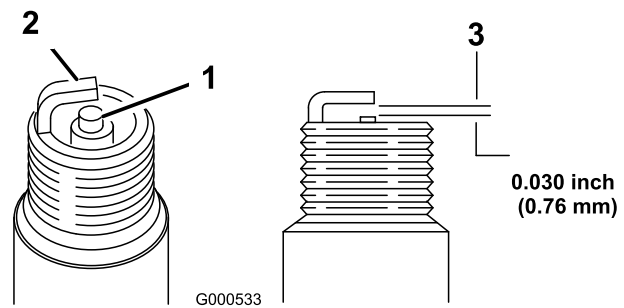

Figure 28
5. Set the gap on the plug to 0.030 in. (0.76 mm) (Figure 28).